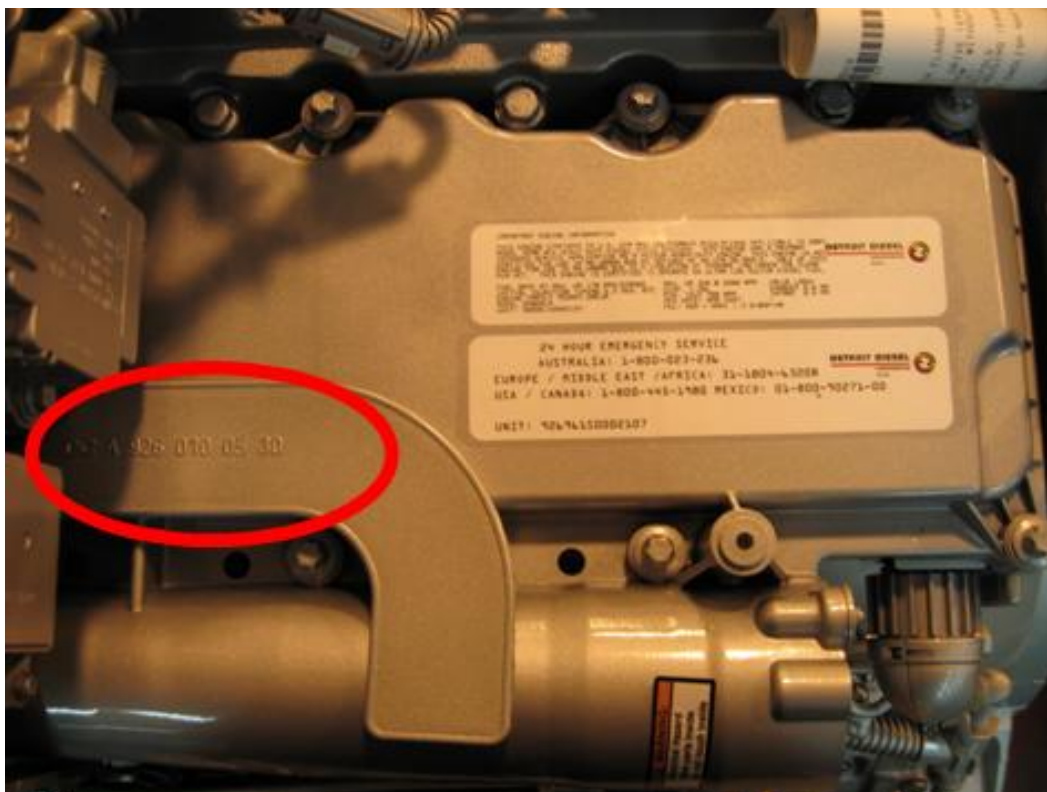

Figure 1 – Location of Electrostatic Oil Separator Part Number
1. Verify the electrostatic oil separator has been updated. The part number on the rocker cover should be P/N: A9260100530. See Figure 1. If the separator needs to be changed, email the Detroit Diesel Customer Support Center at csc@detroitdiesel.com. The new parts will automatically be sent to you free of charge.